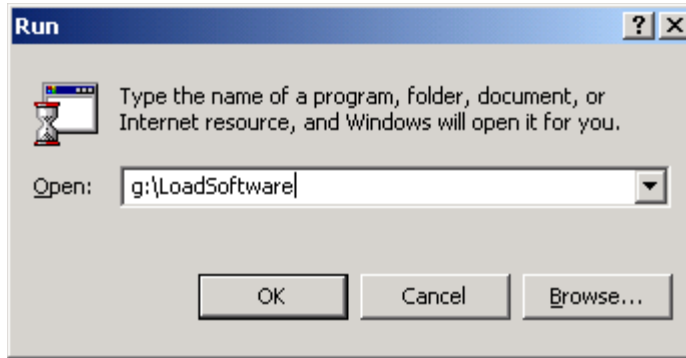

Figure 8-233 Run Load Software
- 2.) Press the Start button on the tool bar at the bottom of the screen and select "Run...". Enter "g:\LoadSoftware" into the dialog box as shown in Figure 8-233.